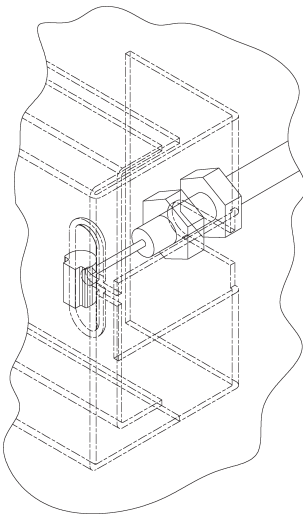

FIG. 10
5. Assemble the operating cable to the fountain bracket. (Fountain should be mounted to exterior wall) The adjustment nuts should be in the middle of threaded area on the operating cable. See Figure 10. Create a loop in the cable and thread the free end of the cable through the wall into the freeze resistant box.